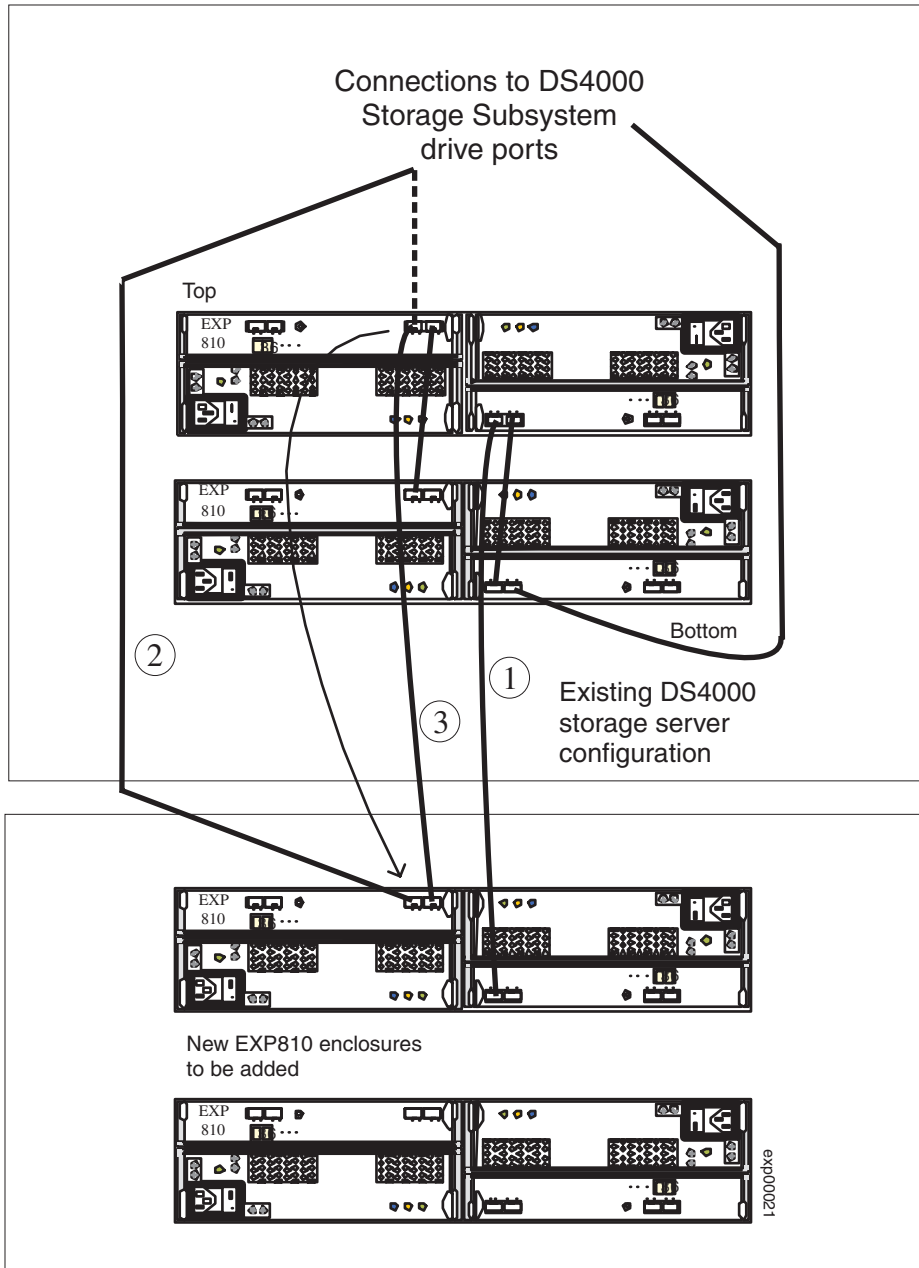

Figure 32. Cabling an EXP810 to the top of a functioning drive loop
- Top (beginning) of a drive loop, see Figure 32 on page 84.
Note: The port name on an EXP810 is not labeled OUT. See Figure 32 on page 84 for details.
Note: The port name on an EXP810 is not labeled IN. See Figure 32 on page 84 for details.